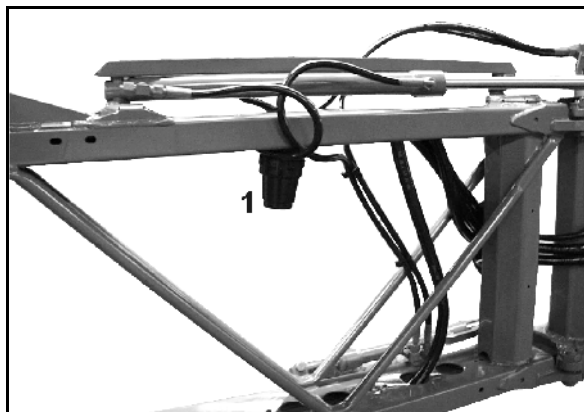

Fig. 175
- Clean the line filter (Fig. 175/1).